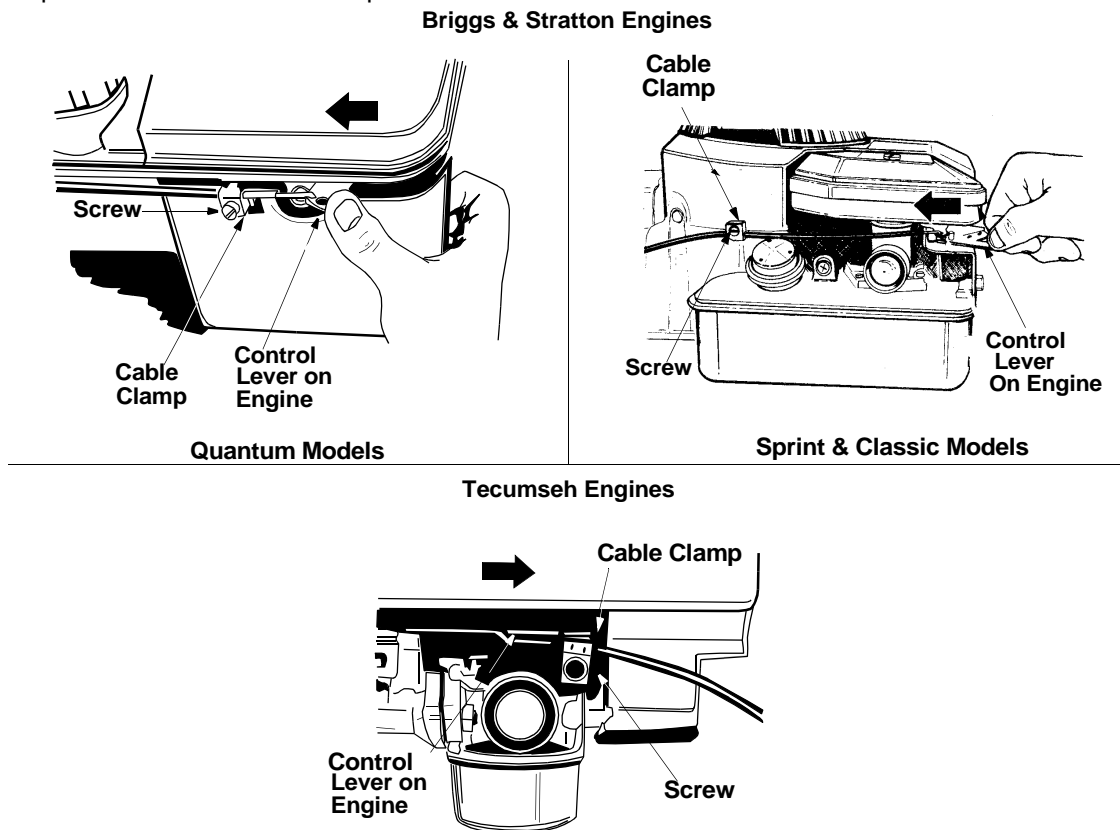

Figure 15
- Remove the screw shown in Figure 15. Remove the cable clamp from the cable. **NOTE:** If your mower has a **Tecumseh engine**, simply loosen the screw shown in Figure 15 so the cable will move freely beneath the clamp. It is not necessary to remove the screw and clamp completely.